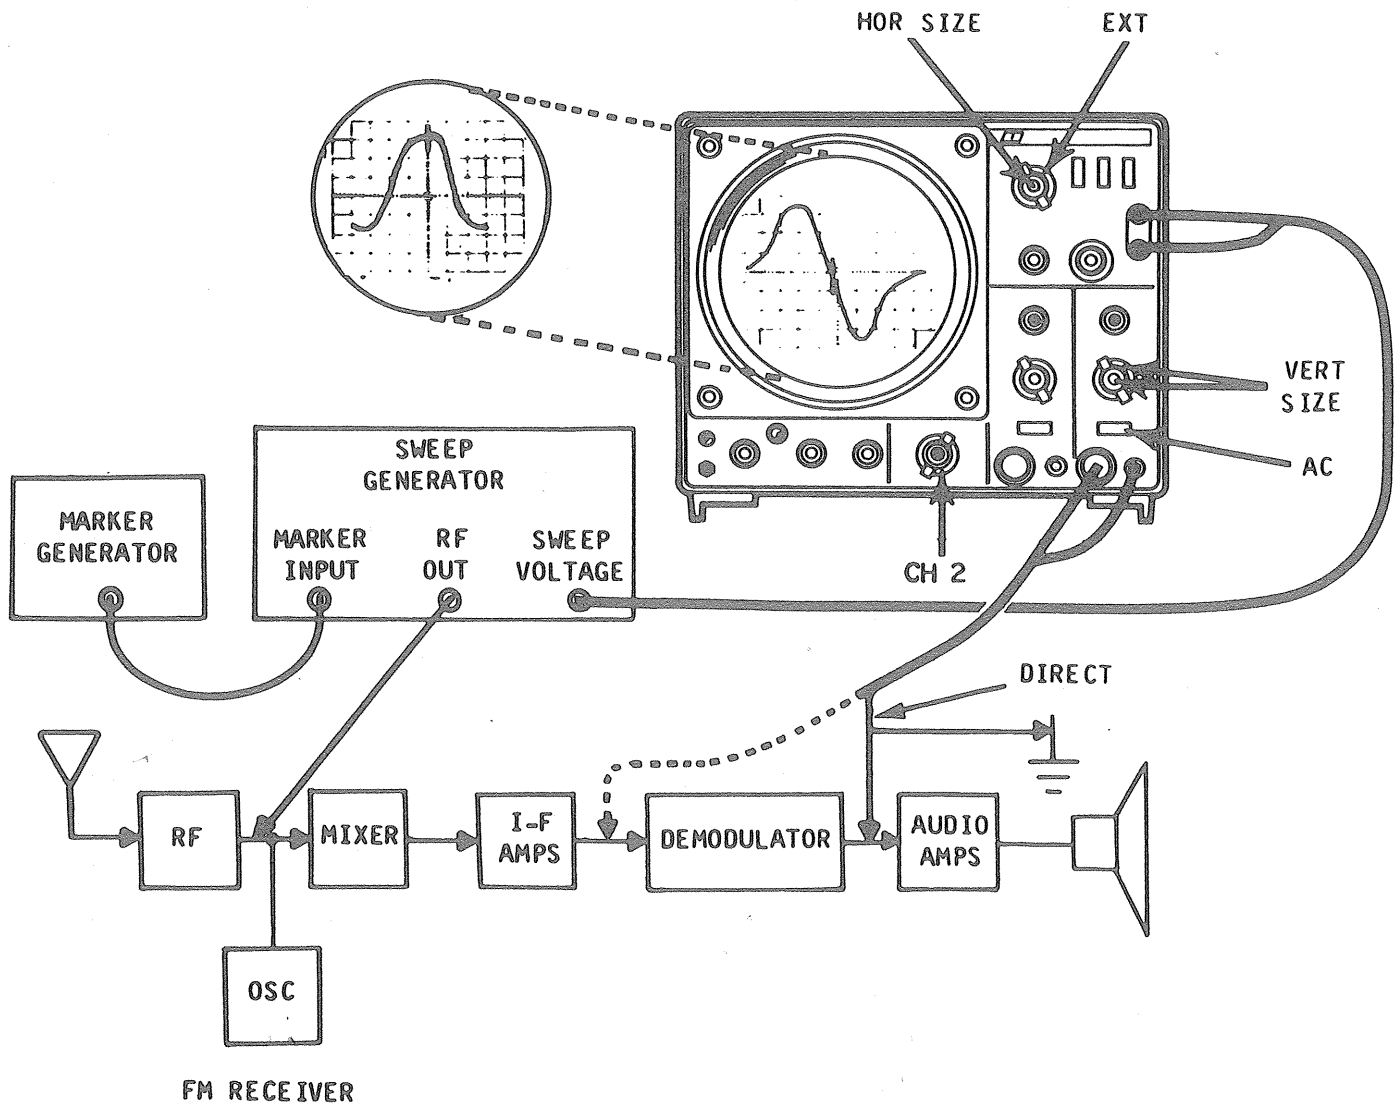

Figure 34. Typical FM Receiver Alignment Set-Up
Refer to Figure 34
4. Adjust the oscilloscope vertical and horizontal gain controls for a display similar to that shown in Figure 34. The narrow bandpass is easier to interpret if 5X magnification is used.